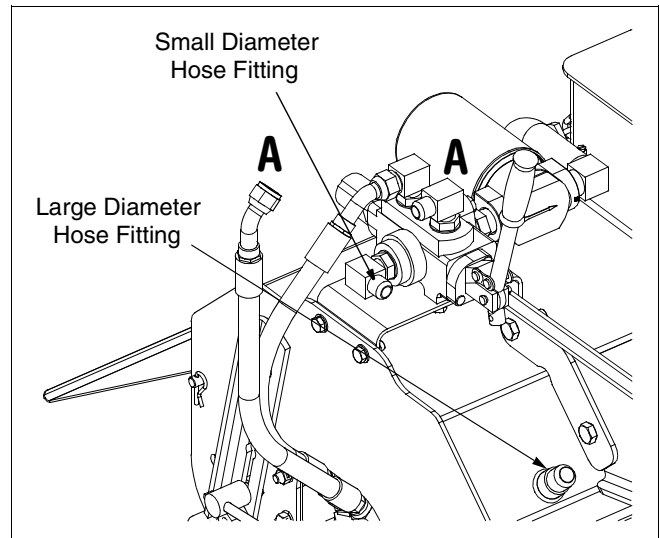

Figure 2
- Locate the two male hydraulic fittings on the front of the tiller assembly. Note that one fitting has a noticeably larger diameter than the other. See Figure 2.
- Thread the hose end labeled “A” in Figure 2 to the 90° adapter labeled “A” in Figure 2. Tighten securely.